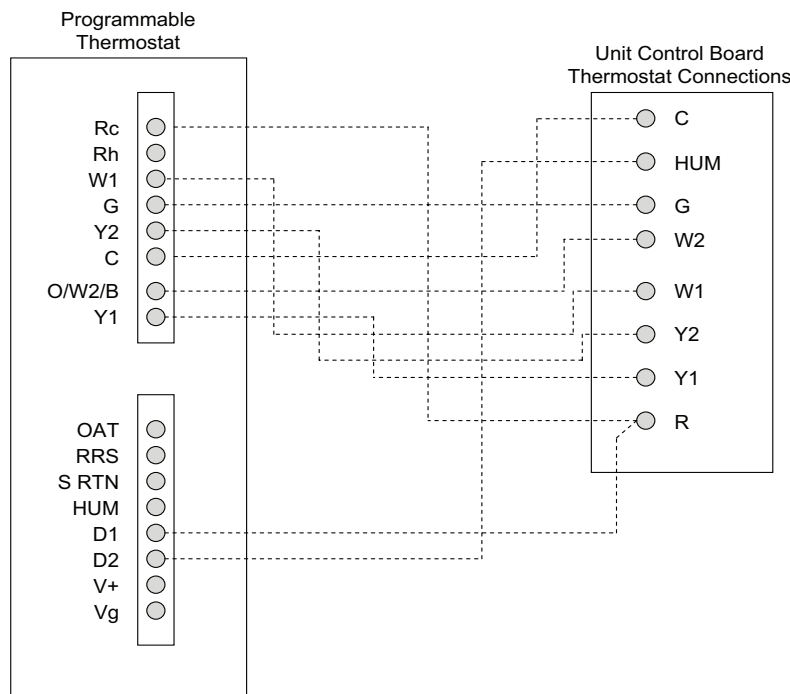

Fig. 40 — Typical Rooftop Unit with Humidi-MiZer Adaptive Dehumidification System and Edge® Pro Thermidistat Device
3. The Thermidistat has dry contacts at terminals D1 and D2 for dehumidification operation (see Fig. 40). Connect D1 to the R terminal on the UCB. Connect D2 to the HUM terminal on the UCB. Refer to the installation instructions included with the Carrier Edge® Pro Thermidistat device for more information.